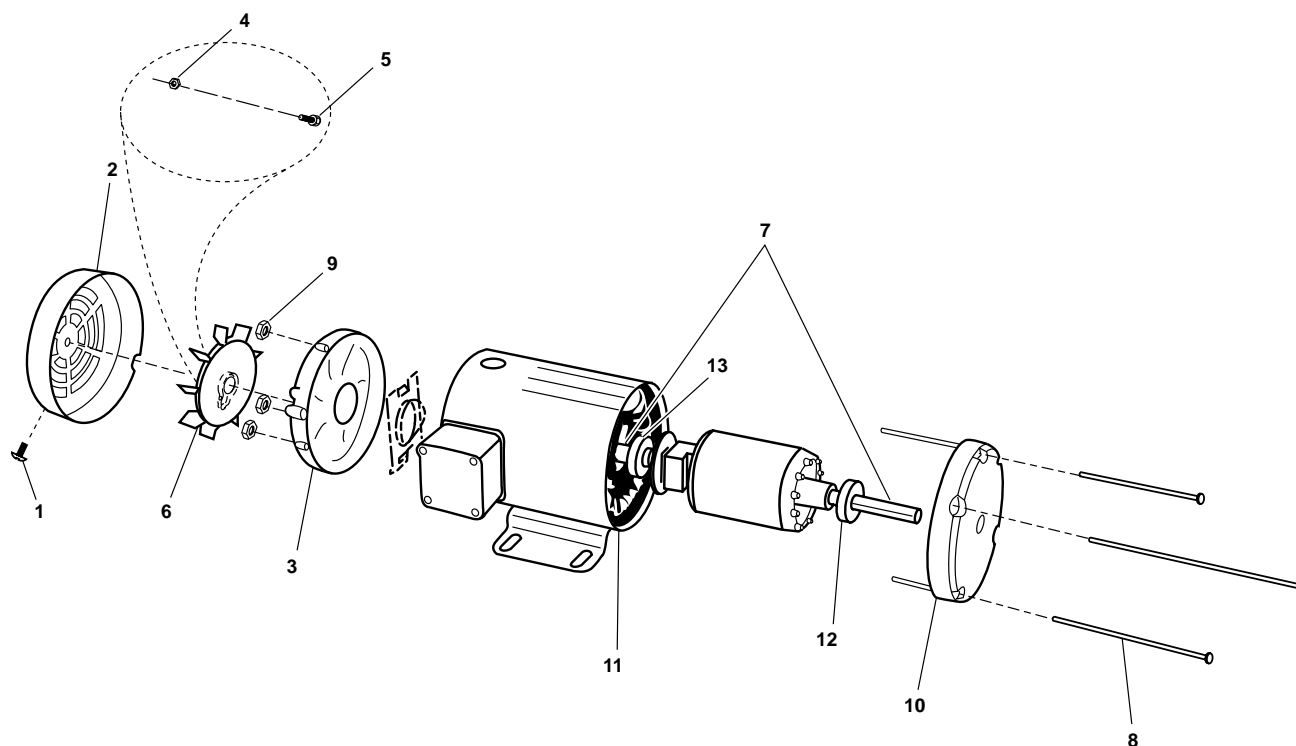

Figure 1. Cooling Fan Motor
1. Remove the three screws (figure 1, item 1) that secure the fan cover (figure 1, item 2) to the front endplate (figure 1, item 3). Remove and set aside the fan cover.
2. Loosen, but do not remove the nut (figure 1, item 4) and bolt (figure 1, item 5) that secure the fan (figure 1, item 6) to the rotor's shaft (figure 1, item 7).
3. Slide the fan (figure 1, item 6) off the rotor's shaft (figure 1, item 7).
1. Slide the new fan (figure 1, item 6) onto the rotor's shaft (figure 1, item 7).
2. Secure the fan (figure 1, item 6) to the rotor's shaft (figure 1, item 7) by tightening the nut (figure 1, item 4) and bolt (figure 1, item 5).
3. Install the fan cover (figure 1, item 2) on the front endplate (figure 1, item 3), and secure it with the three screws (figure 1, item 1).
2. Remove the four through bolts (figure 1, item 8) and four nuts (figure 1, item 9).
3. Remove the pulley endplate (figure 1, item 10) and front endplate (figure 1, item 3) from the rotor's shaft (figure 1, item 7).
4. Carefully remove the rotor's shaft (figure 1, item 7) from the motor case (figure 1, item 11).
5. Using a bearing puller, remove the front bearing (figure 1, item 12) and rear bearing (figure 1, item 13) from the rotor's shaft (figure 1, item 7). Note the position of the bearings so that the new bearings are installed in the proper location on assembly. Discard the old bearings.
1. Install the new front bearing (figure 1, item 12) and new rear bearing (figure 1, item 13) onto the rotor's shaft (figure 1, item 7).
2. Carefully install the rotor's shaft (figure 1, item 7) into the motor case (figure 1, item 11).